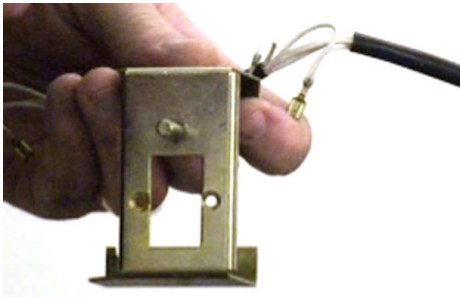

Figure 7B
19. Remove the motor wiring harness from the factory bracket, but keep the 2 screws to use later on in the installation process (Figure 7B).